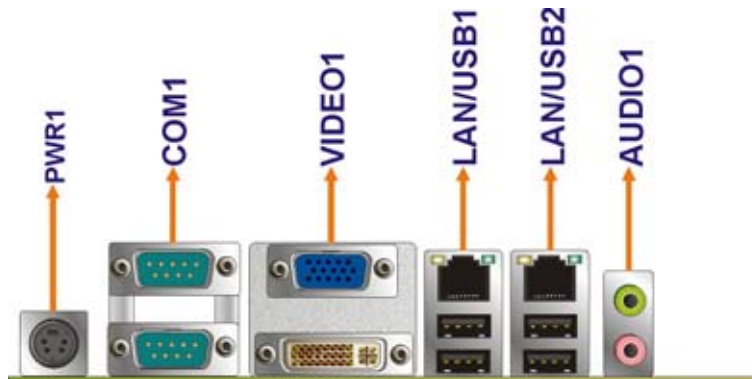

Figure 4-24: eKINO-945GSE External Peripheral Interface Connector
Figure 4-24 shows the eKINO-945GSE external peripheral interface connector (EPIC) panel. The eKINO-945GSE EPIC panel consists of the following:
CN Location: See **Figure 4-24**
- CN Location:** See **Figure 4-24**